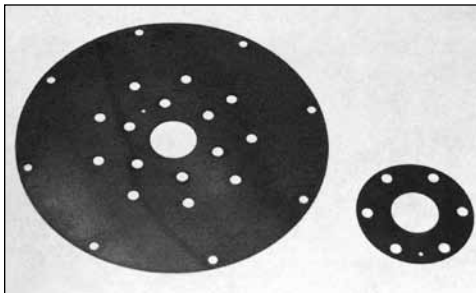
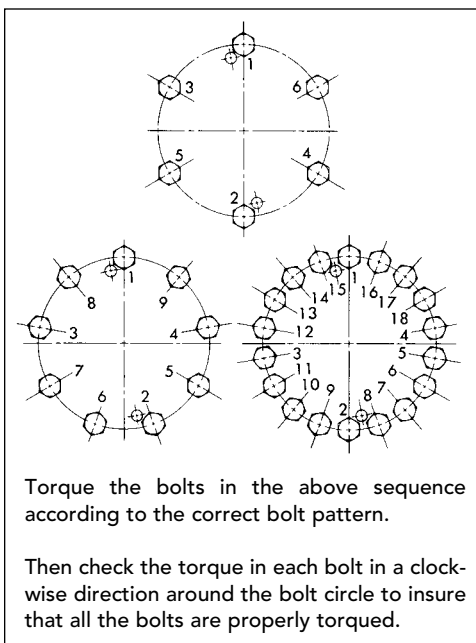

Figure 6-61
Figure 6-62
4. a. For single bearing generators, insert a guide stud into the drive hub. Position all spacers (if any), then all drive discs, one at a time until all discs are installed (figure 6-61). Make sure that all disc mounting holes at the inner and outer diameter are properly aligned. Secure the discs with the grade 8 5/8-18 capscrews and hardened washers. Torque to 192 ft-lb (260 N-m) (see figure 6-62 for torquing sequence).